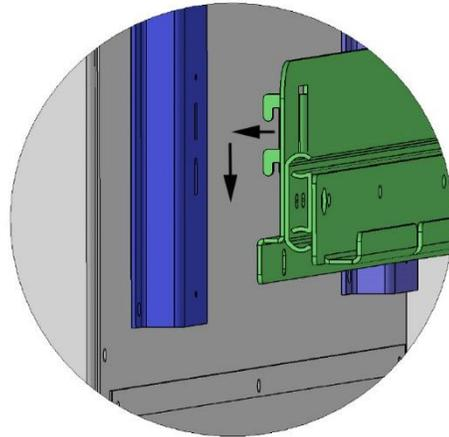

Figure 13: Sliding Shelf Mounting Bracket Installation
2. Slide the bracket down so that the tabs are securely seated in the mounting slots. See Figure 13.